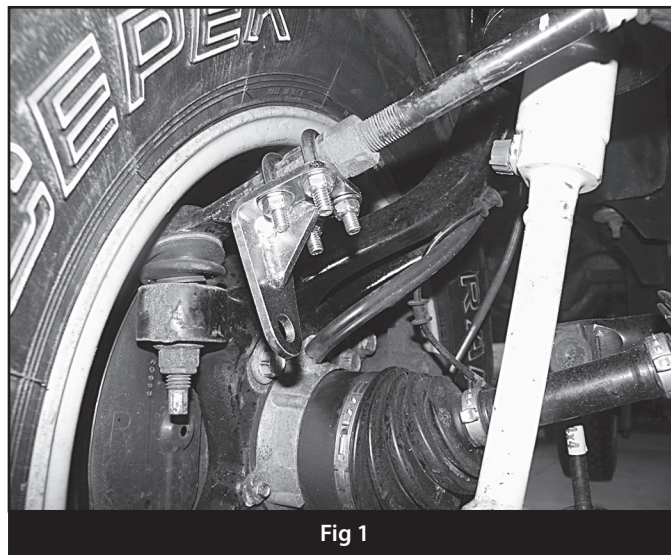

Fig 1
2. Install bracket as shown on tie rod end. Edge of bracket will be flush with edge of tie rod. Attach with 5/16" u-bolts. Tighten hardware to 17 ft-lbs. (Fig 1)
7. Repeat tie rod bracket installation for driver's side. (Fig 1)